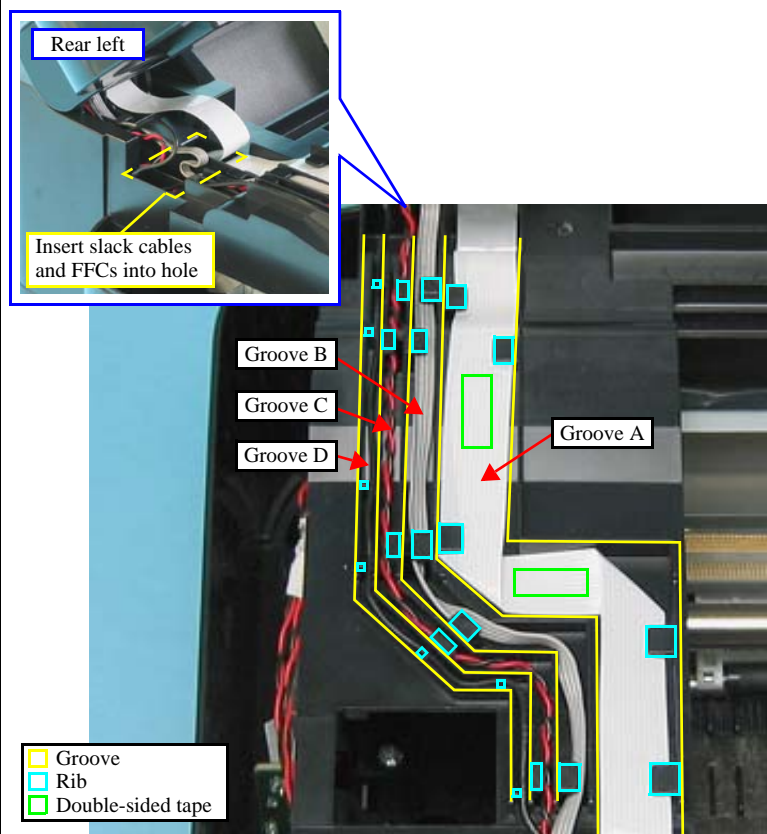

Figure 4-21. Routing the Cables
- After routing the cables from the Main Board side, insert the slack cables and FFCs into the hole on the Middle Housing. (See Figure 4-21.)